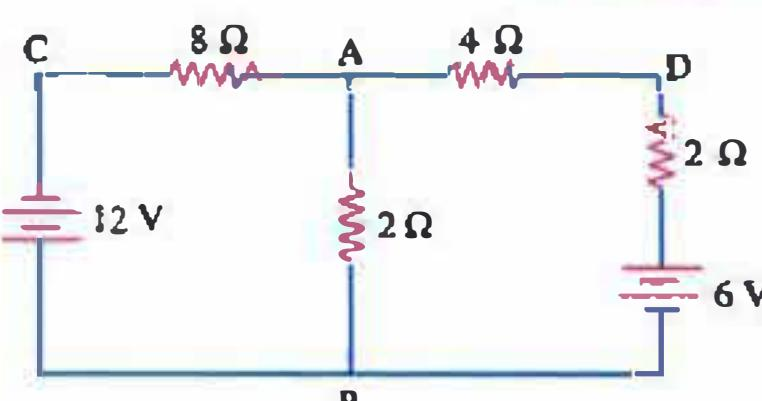

Fig. 3.6
2. With the help of Kirchhoff's laws, calculate the magnitude and direction of current flowing through branches  $AC$ ,  $AB$  and  $AD$  of the circuit shown in Fig. 3.6.